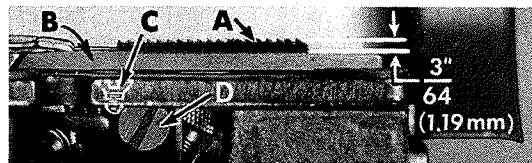

Fig. 9
Set the feed dog (A, Fig. 9) in the throat plate (B) so there is equal clearance on all sides. See that the tips of the teeth extend the depth of a tooth or approximately $\frac{3}{64}$ inch (1.19 mm) above the throat plate at high point of travel. Adjust the support screw (C), under the feed dog, to maintain this setting. Screw (D) is used to hold feed dog in position.